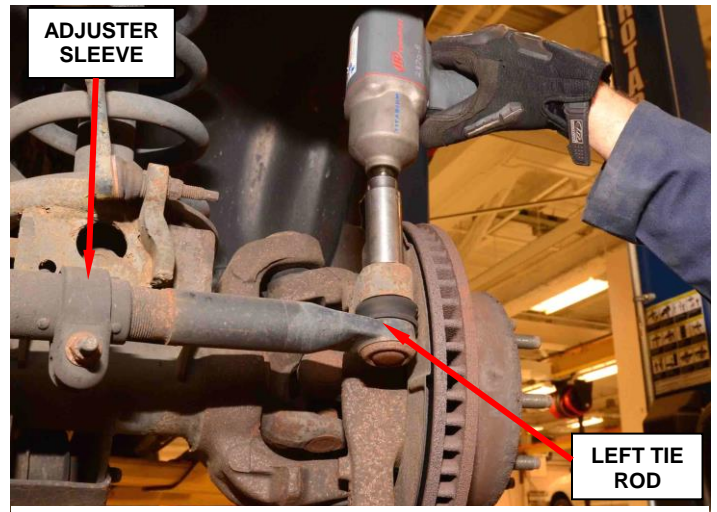

Figure 5 – Left Tie Rod Nut
7. Remove and discard the left tie rod nut (Figure 5).